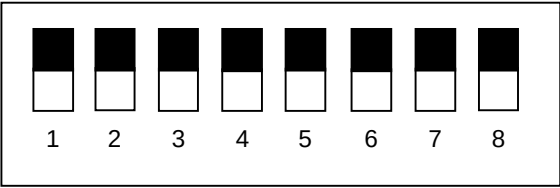

Figure 6.8.2 DIP switches (Being set for Standard setting)
(2) Perform as the procedure shown below.
(3) Set the DIP switch No.4 as shown in Figure 6.8.2.